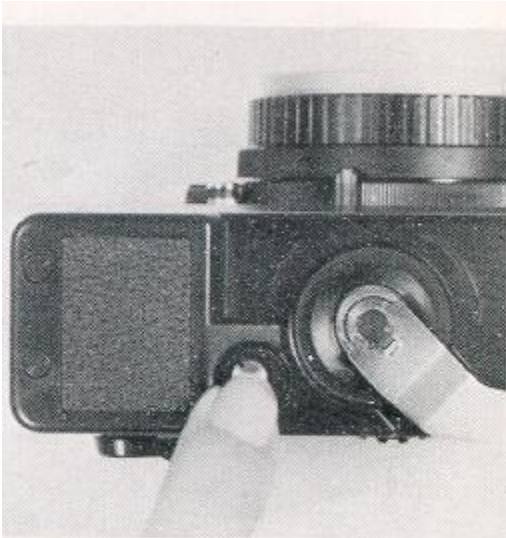

Fig. 5
1. Push the Film Rewind Release Button (5) under the Winder upwards with your finger. When you release the button, it will return to its former position, but the film rewind release button on the camera will stay locked in position. (Fig. 5)